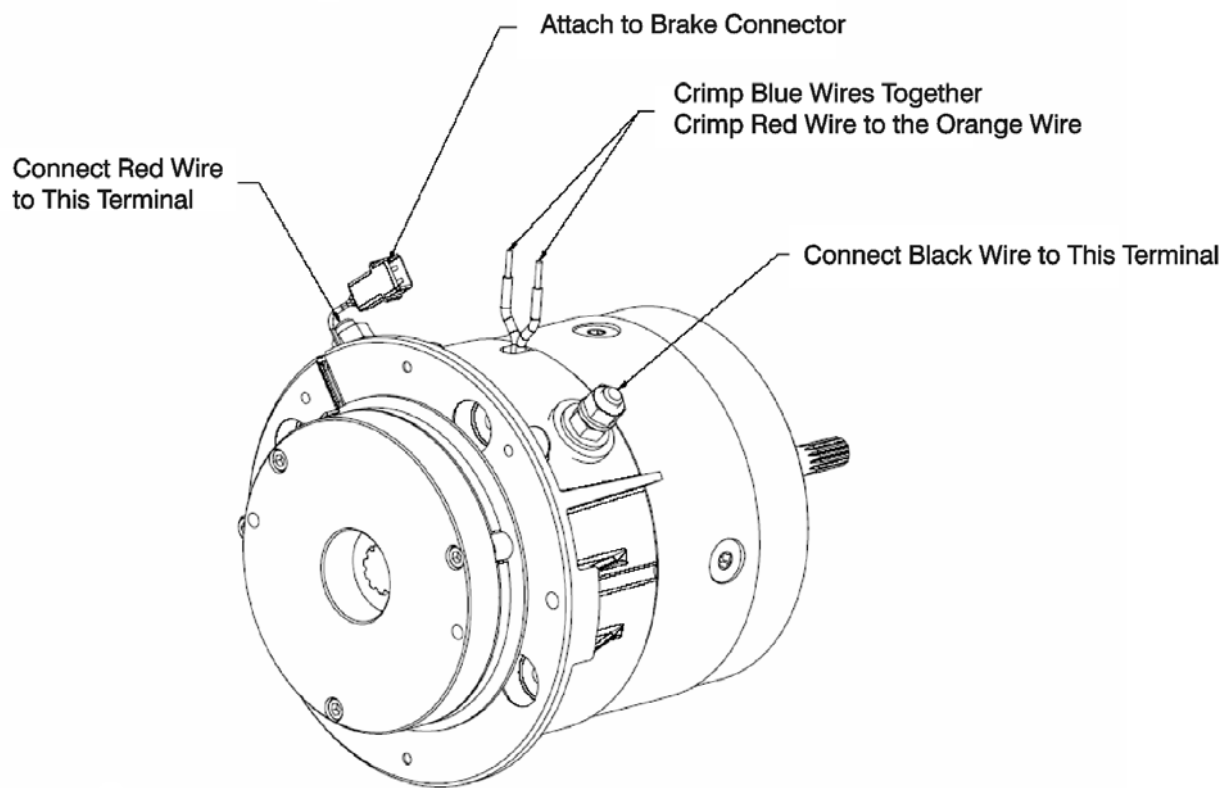

Figure 3-26. Wire Harness Connections
1. After inspection and servicing, reassemble the wiring in the Commutator End Head (9) as originally found. Ensure the wiring does not contact metal parts and that it allows the brushes to move unrestricted in the holders. Motor terminals must be assembled as shown Figure 3-26. Torque bottom terminal nut to 110 - 140 in-lb (12.4 - 15.8 Nm).